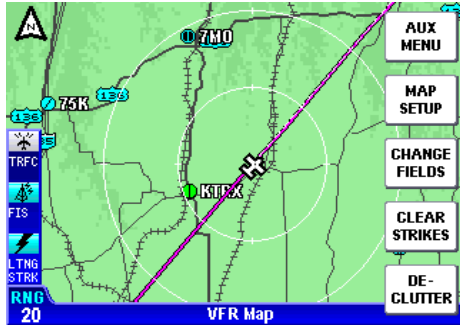
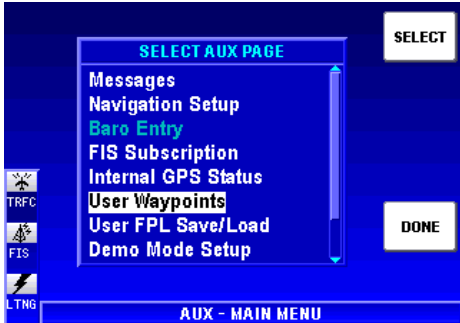

Figure 1-91
Figure 1-92
1. Press the **MENU** Key to display Figure 1-91. Press the **AUX MENU** Softkey to display Figure 1-92. Use the Joystick or Rotary Knob to place the cursor over **User Waypoints** as seen in Figure 1-92.